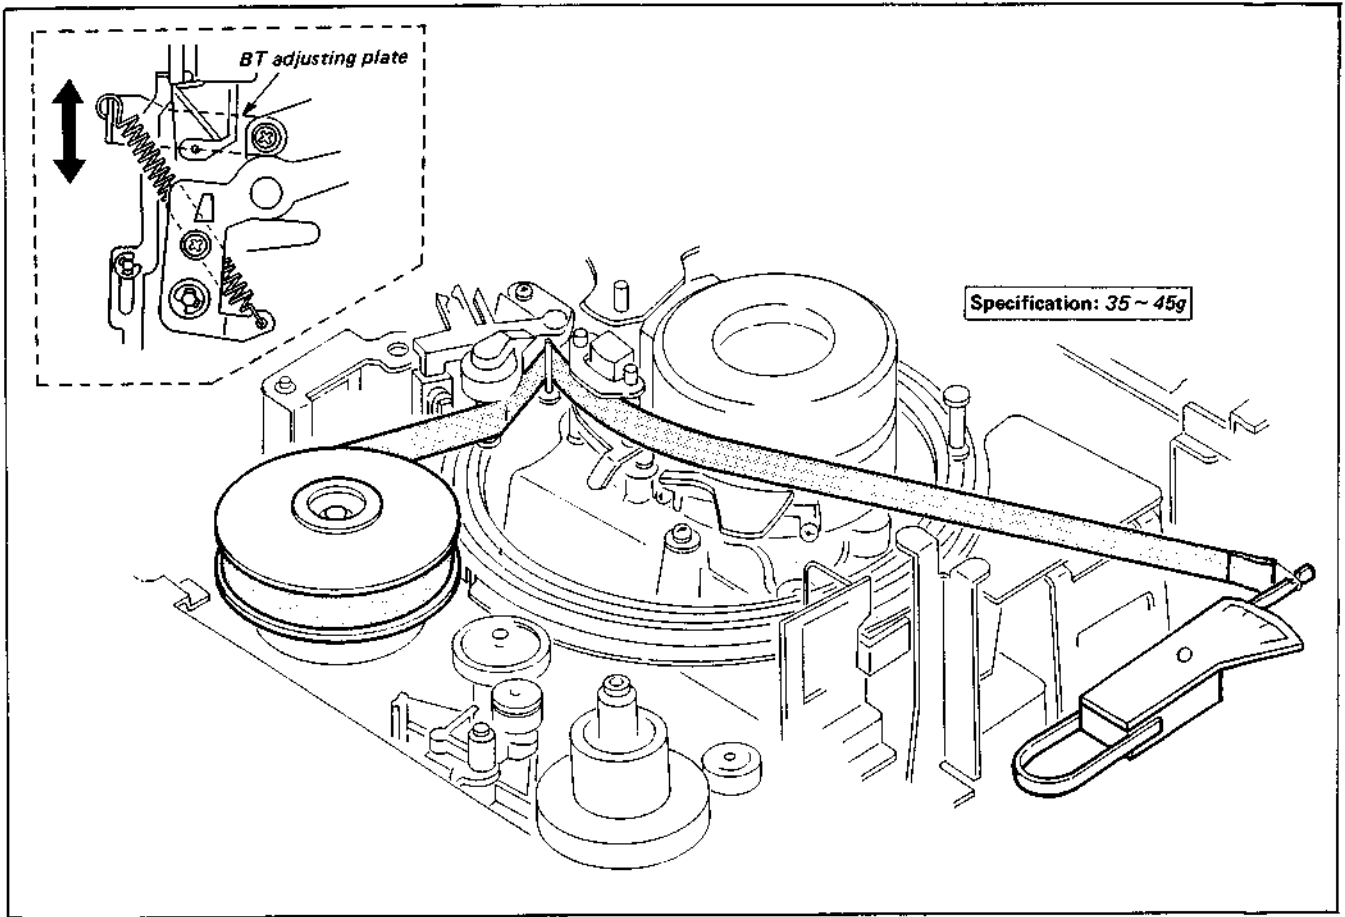

Fig. 3-43. Adjustment of FWD back tension
2. Place the FWD back tension jig (Tool Kit Ref. No. J-6) on the supply reel table assembly and thread the tape as shown in Fig. 3-43. Hook the sector type gauge (100g full scale, Tool Kit Ref. No. J-8) to the end of the tape.